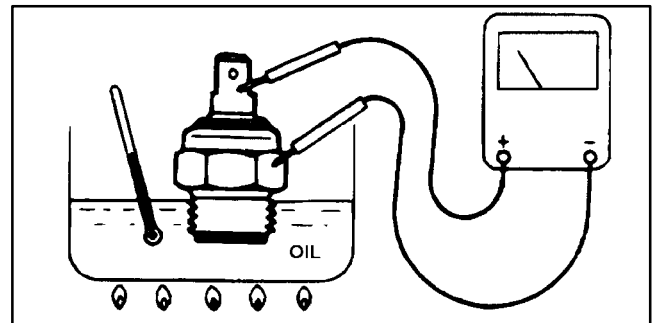

Figure 33
2. Put the switch in a container of oil with a thermometer and slowly heat the oil (Fig. 33).